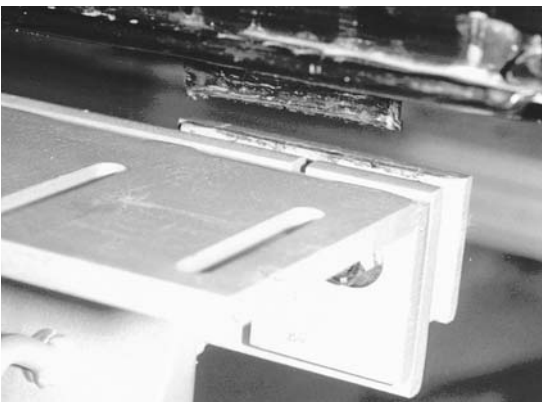

Figure 7
4. Raise side of vehicle using suitable lifting device and slide Anchoring Stand into Mounting Bracket on mainframe. Then adjust fore/aft position of Mounting Bracket (if needed) to align clamp with vertical jack tab. (See Figure 7.)